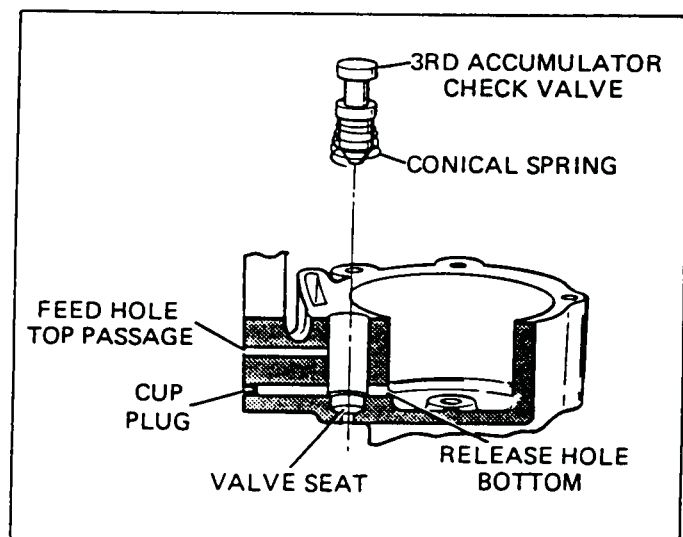

Figure 1
4. Plug the feed and exhaust holes in the bore using petrolatum (Figure 1).